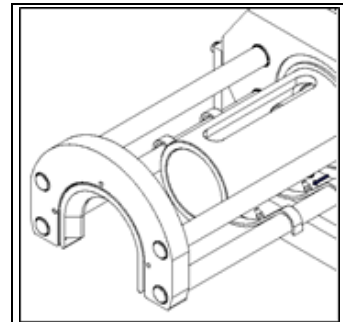

Figure 26 – Align the Installing Tube
- 5.3.9 Regulate the Installing Tube Cradle Adjusting screws to properly align the Installing Tube with the recess in the Hydraulic Cylinder Mounting Plate so that they will engage correctly (Figure 26).